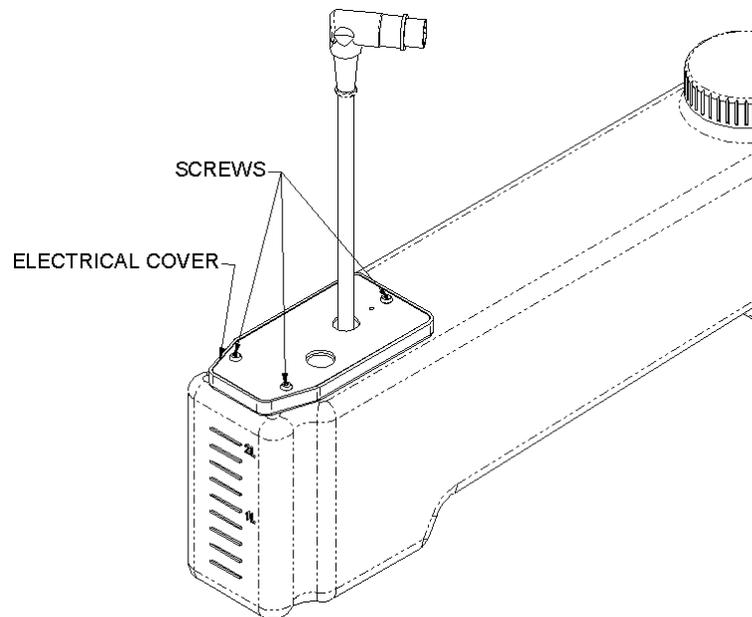

Figure 13-1 Dispense Bottle Assembly
- 1 Remove the dispense bottle assembly (Figure 13-1) from the system.
- 2 Remove the three screws (and accompanying washers) that secure the electrical cover to the dispense pump assembly (Figure 13-1).